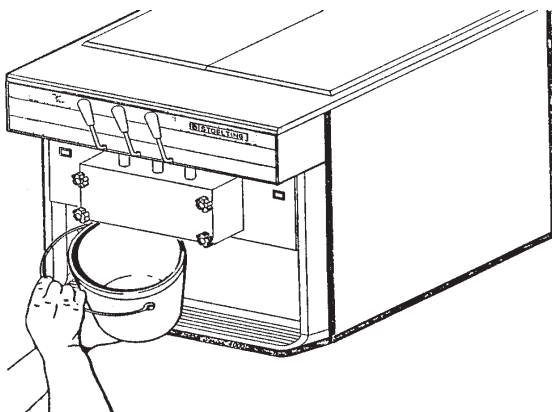

Figure 19. Draining Mix
- C. Drain the liquid mix by opening the spigot. A bucket or container should be placed under the spigot to catch the liquid mix (Fig. 19).